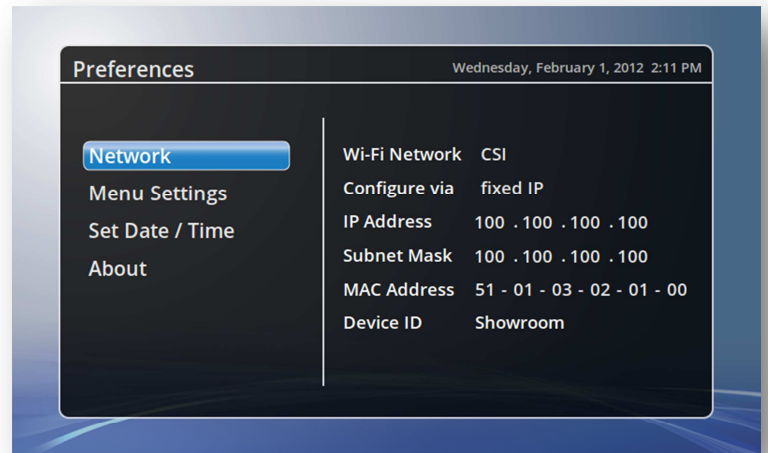

Figure 3: Find IP Address
3. For example in Figure 3 the Adhoc SSID would be "CSI LCD 02:01:00"